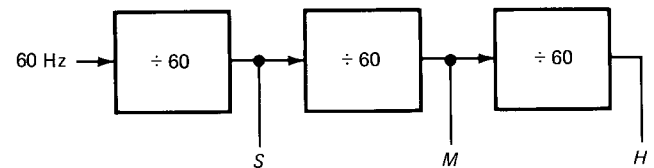

Fig. 8-33
- 8-14. In a digital clock, the 60-Hz line frequency is divided down to lower frequencies, as shown in Fig. 8-33. What are the frequency and period of the S output? Of the M output? Of the H output?
- 8-15. You have an unlimited number of the following ICs to work with: 7490, 7492, and 7493. Which of these would you use to build the divide-by-60 circuits of Fig. 8-33?